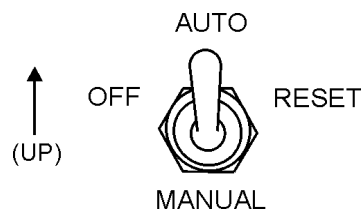

Figure 68. Off/Manual Auto Switch (AUTO)
2. Place the Off/Manual/Auto switch (Figure 68) in the **AUTO** position (up).